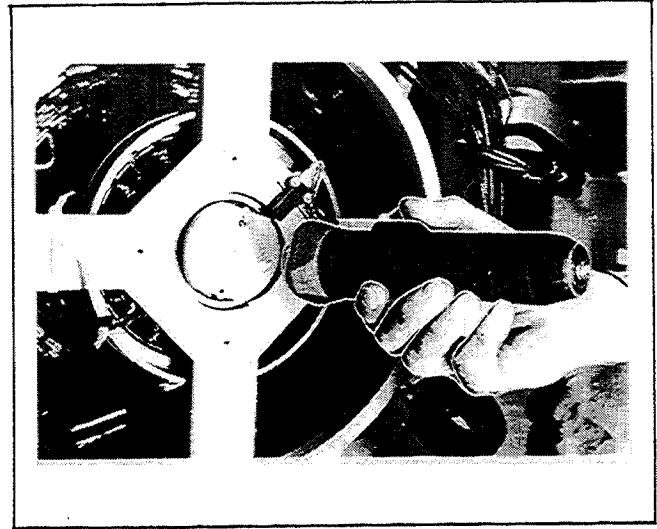

Figure 4-4. LED Flashlite Test
2. With the generator set running at no load, shine a flashlight on the exposed photo transistor board. Figure 4-4.